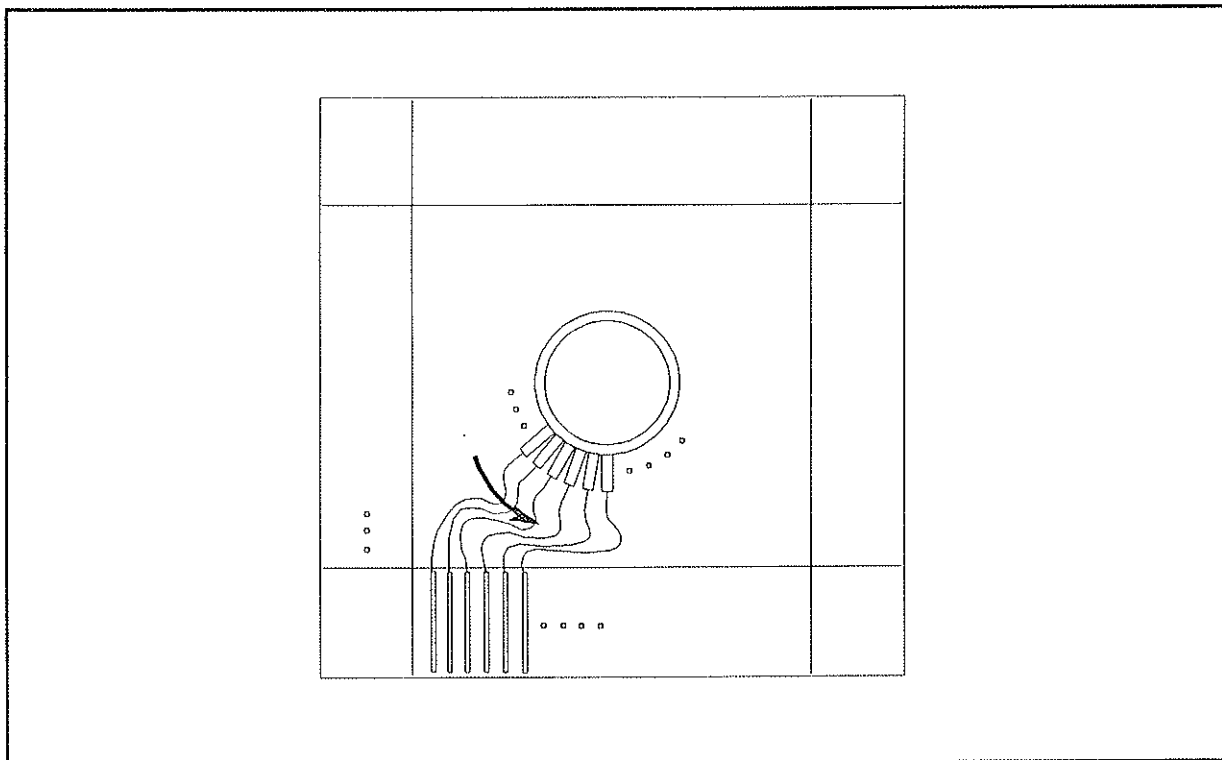

Figure 3-30. Positioning the Cables in the SWM
4. Bend the cables of the measurement pin assembly in the direction shown in Figure 3-30.